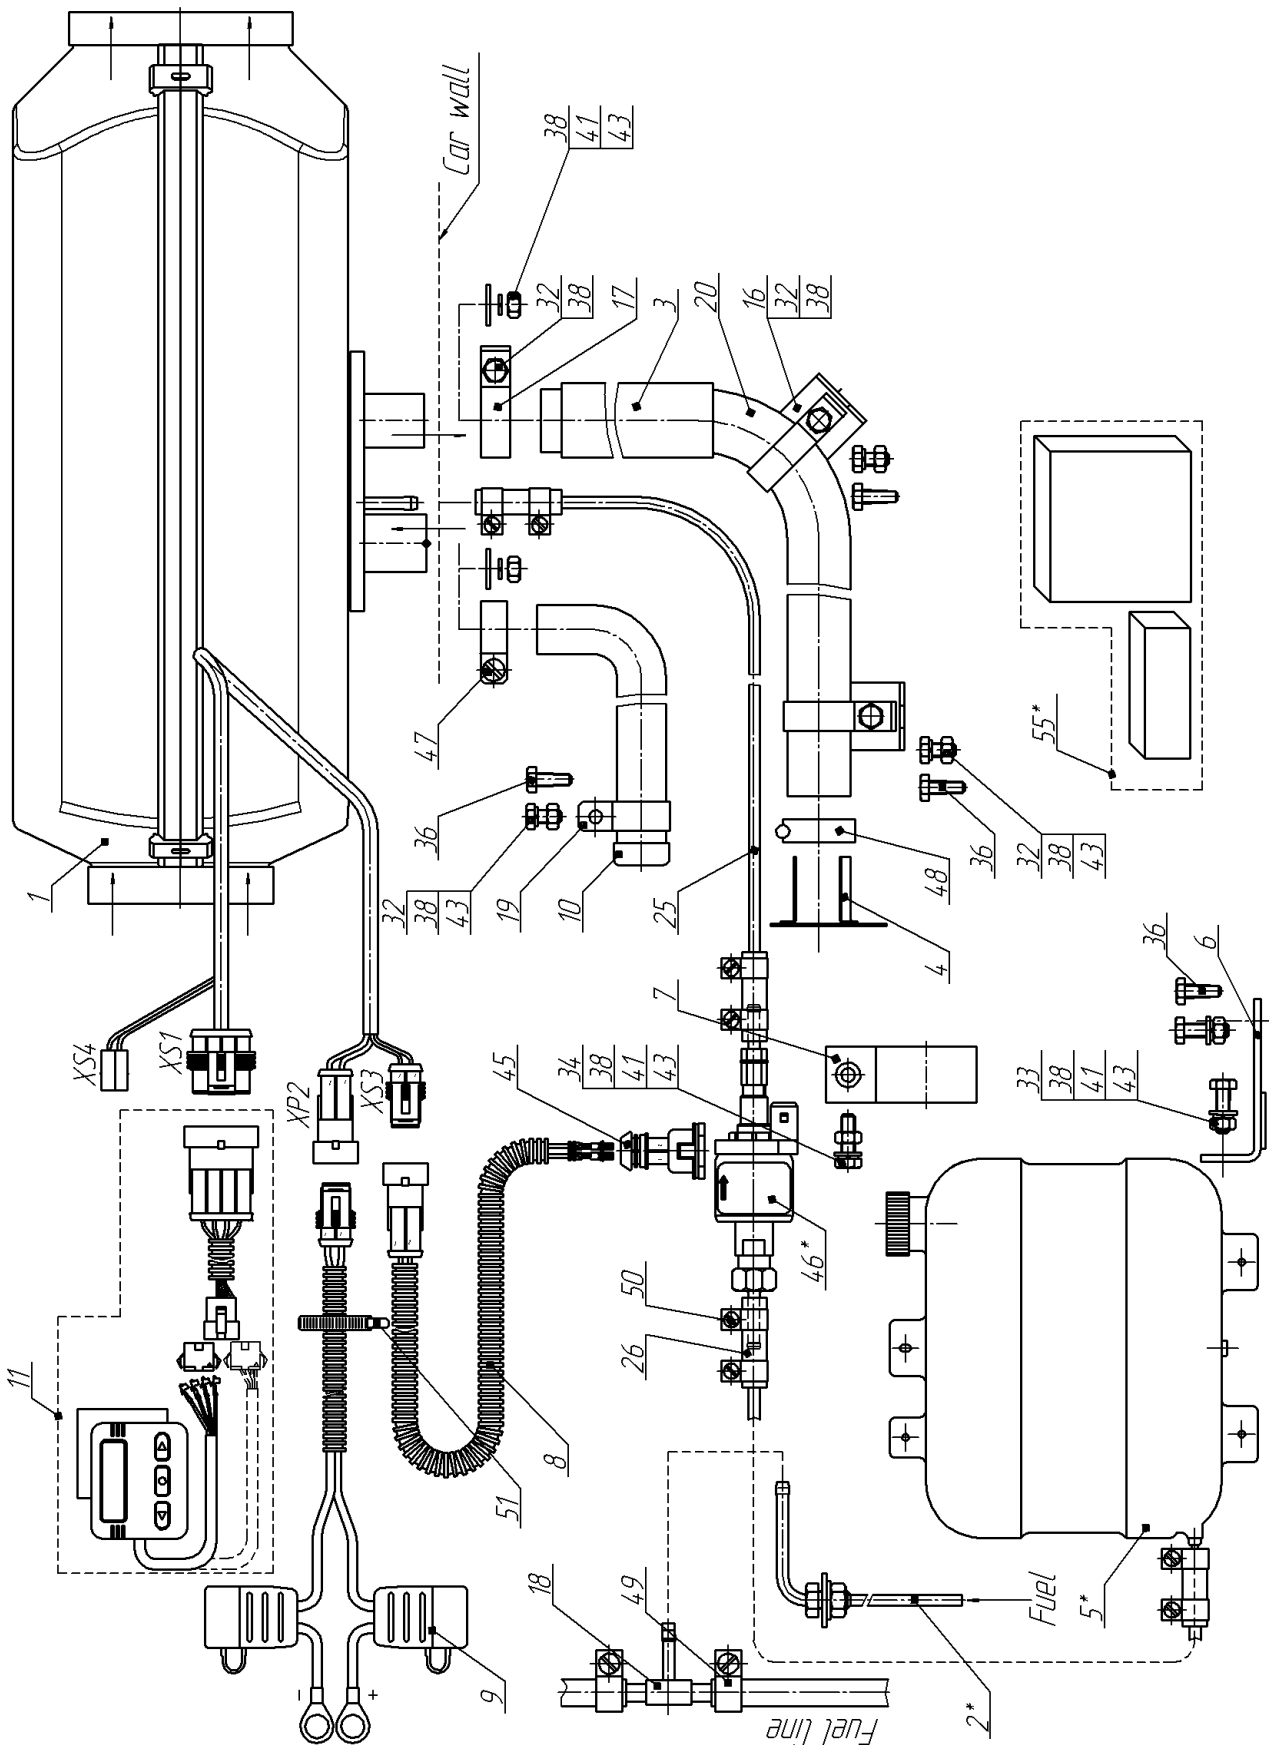

Figure 7.1 – Connection Diagram of Basic Heater Components
See Figure 7.1 for scope of supply and connection diagram of basic heater components. For list of basic heater components, see Table 7.1.
Screen installation to make according to fig. 7.1.
When installing the exhaust pipe, be mindful of its high operating temperature. Cut the exhaust pipe (a flexible corrugated metal hose) to size. Fix the exhaust pipe in place using clamps and position it at a slight angle following the trajectory of gas flow. To protect some parts of the vehicle (electric wiring and other harness) from high temperatures, there must be heat insulation installed.(pos.3, fig.7.1)
Do not allow exhaust gas to affect the performance of vehicle components. Position the exhaust pipe outlet vent so as to prevent snow entering or choking the pipe and to allow incoming water to run off. At the vent of the exhaust pipe the screen is installed, this necessary for stable operation of the heater while working low idle. If this screen is not installed, install it according fig.7.1